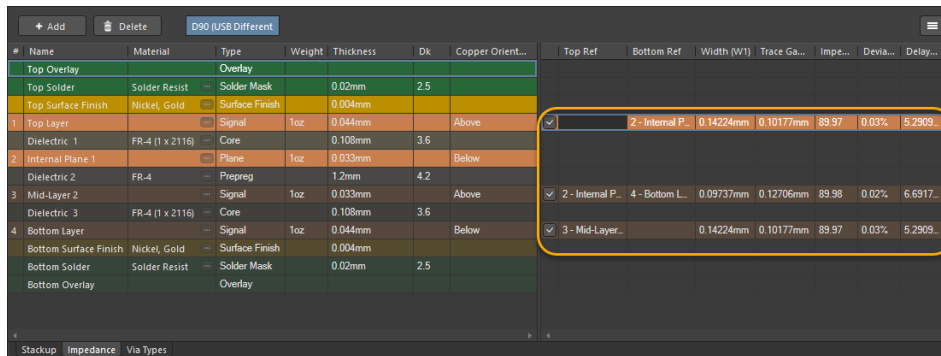
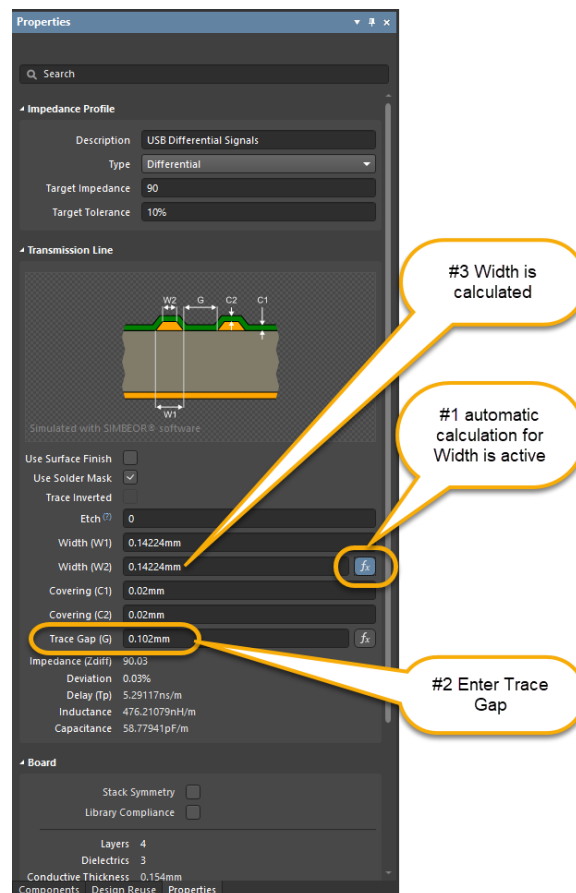

Figure 15. Routing Layers
Figure 16. Trace Width and Trace Gap Calculations
39. Select the individual routing layers from the layer stack table (one layer at a time), to see the track width and gap calculations in the *Properties* panel, as shown in Figure 15 and Figure 16:
- Add 0.102mm as *Trace Gap (G)* in the *Properties* panel and press **Enter** to save the changes.